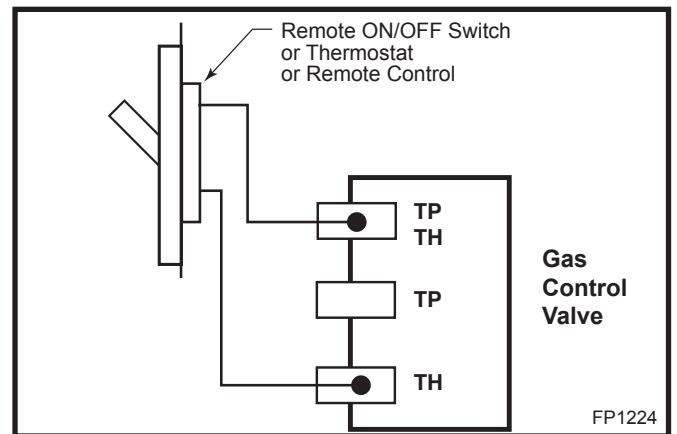

Fig. 8 Remote switch wiring diagram.
3. Attach the wire to an ON/OFF switch (not supplied) and install the switch into the receptacle box. (Fig. 8)